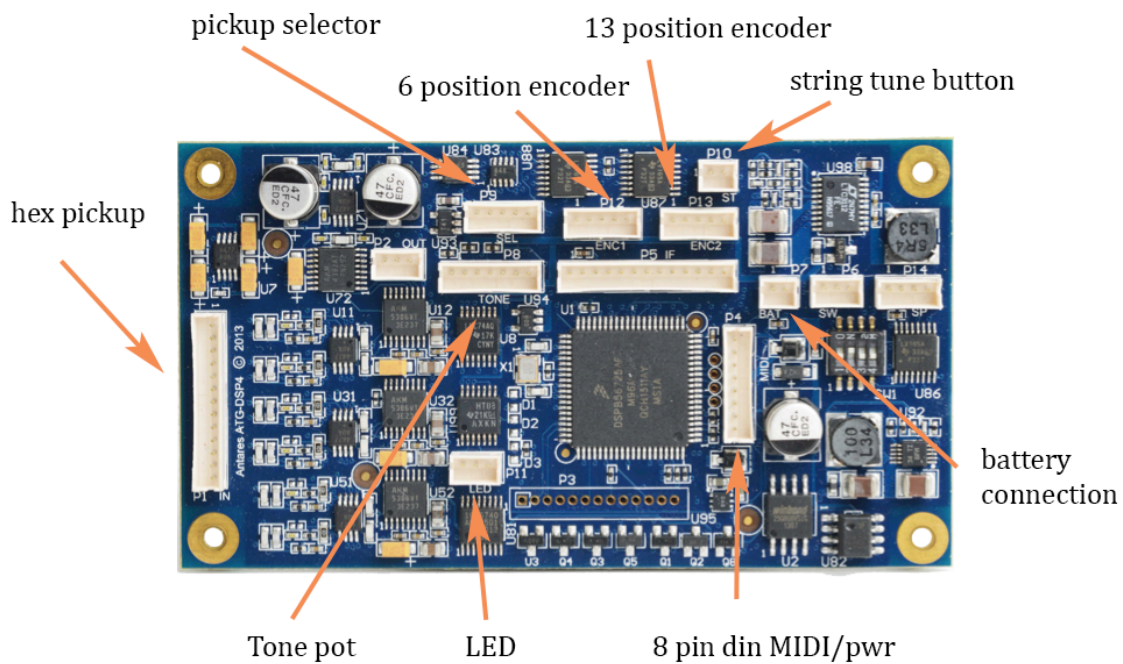
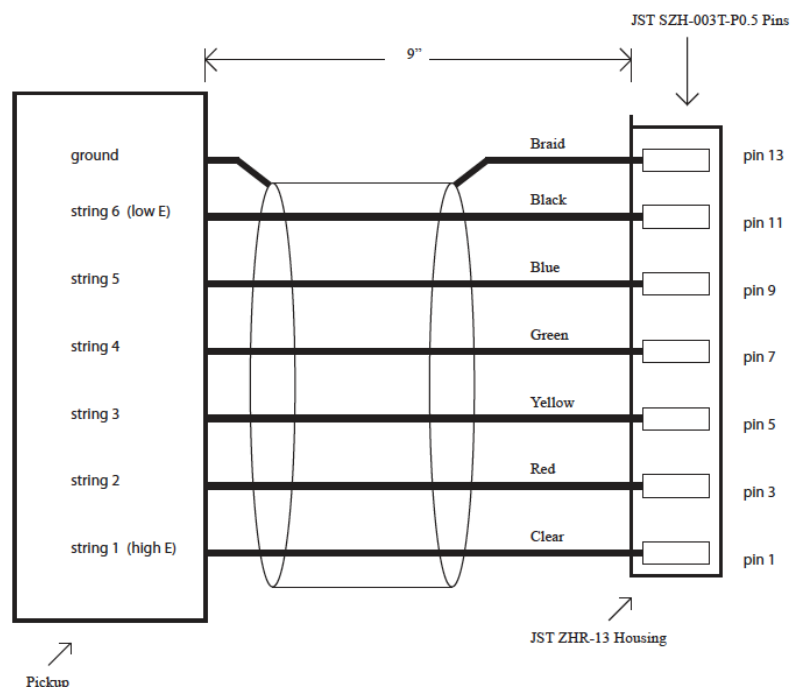
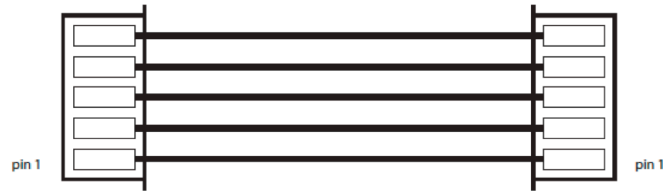
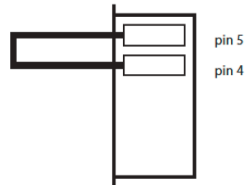

Fig 3.1 - DSP4 circuit board
Fig 3.5 - Hex Pickup wiring - note Housing pin numbers are 1, 3, 5,
Fig 3.6 - Encoder jumper cable
Fig 3.7 - Encoder shorting header
- ☐ **Step 2: Active Hex Pickup cable:** Install the pickup cable by running it into the DSP cavity. Reduce the cable length if necessary and possibly change the circuit board orientation (see B below). Then insert the wire pins into the 13-pin plug as shown in Fig 3.5. Install the 13-pin plug into the circuit board "hex pickup header" shown in Fig 3.1.
- 2) If you have one Encoder, install the "Fig 3.7 - Encoder shorting header" into the "6 position Encoder" header on the DSP4. Install the "Fig 3.6 Encoder jumper cable" between the 13 position Encoder circuit board and the DSP4, where indicated. Note: the Encoders are marked with a line on the body near position 6 or 13.
- 3) If you have two Encoders, install the "Fig 3.6 Encoder jumper cable" from each Encoder to the circuit board as indicated on Fig 3.1.
Step 13: Locate the cable pictured in Fig 3.20, and cut to length from the DSP4 to the 8 pin DIN. Solder the cable wires to the plug using the connections given in Fig 3.21. Note that this is a view of the lug (terminal) side of the plug. Install the plug, and install the connector into the DSP4 "8 pin DIN MIDI/pwr" header (See Fig. 3.1).